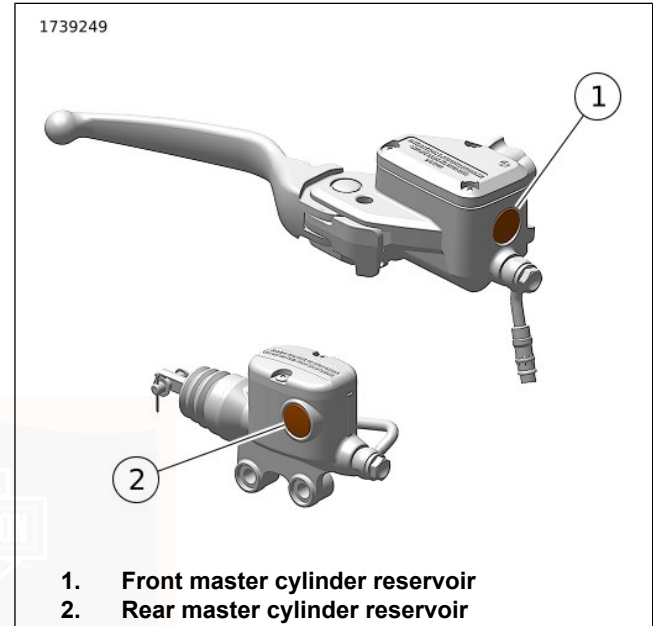

Figure 101. Sight Glass Minimum Marks
2. See Figure 101. View reservoir sight glass. Fluid level must be at or above the minimum mark on glass. If fluid level is below minimum mark, see a Harley-Davidson dealer.